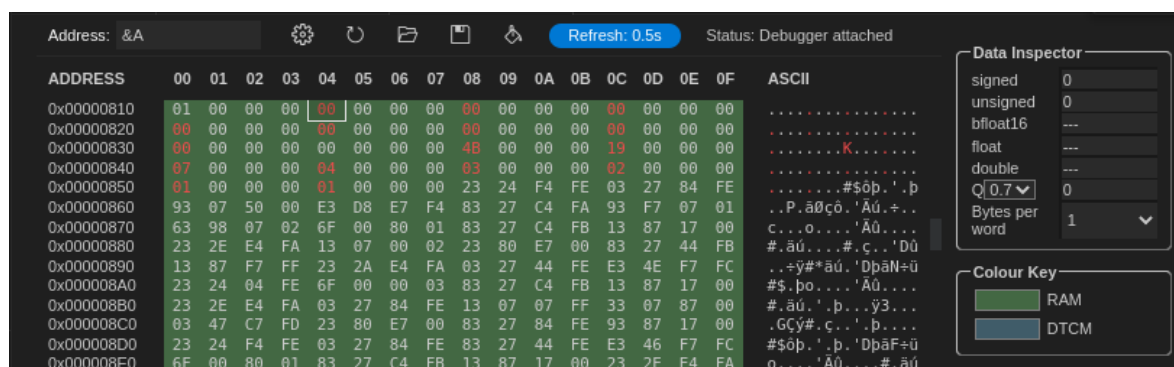

Figure 62. Execution stopped at the end of the program
- Remove all breakpoints, continue execution and pause it after several seconds – at which point the program will have finished executing. Again, analyse the values stored in the A and B arrays. As shown in Figure 62, vector B holds the values from the original vector A sorted from largest to smallest and vector A holds all zeroes (you can see this both at the variables list on the left and at the memory console on the right).